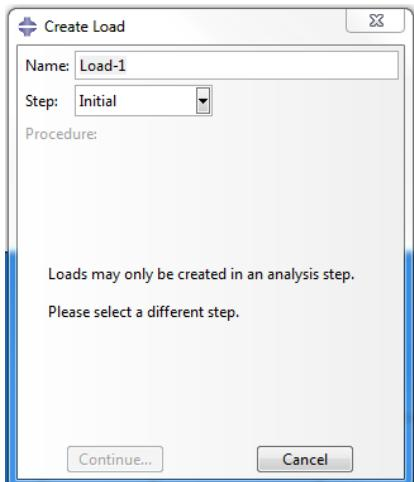
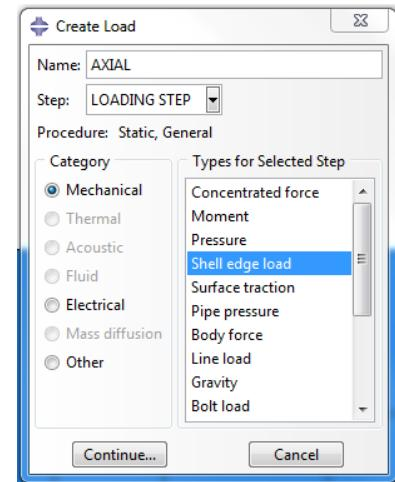

Figure 29a. Create Load
Figure 29b. Create Load (AXIAL)
- An axial load of 500 lbs will be applied on the right side of the structure. Double click **Loads** in the model tree and the create load dialog box will appear (Figure 29a). Create a Name for the load called **AXIAL**. Ensure that the **Step** option is set to **LOADING STEP** and that the **Category** is set to **Mechanical**. For the **Types for Selected** step option choose **Shell edge load**. The **Create Load** dialog box should look similar to Figure 29b.